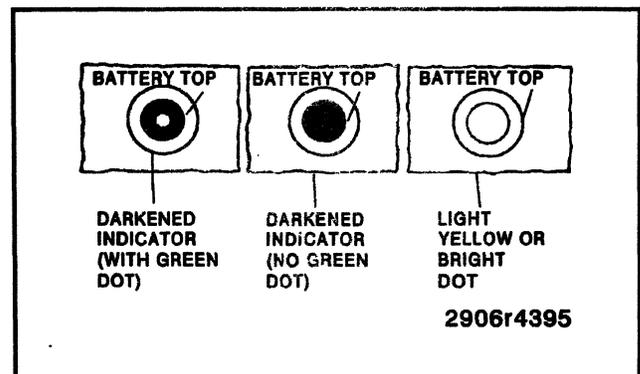

Figure 4—Built-in Hydrometer
Molded into the top of the maintenance-free battery is a built-in temperature compensated hydrometer (Figure 4). Use this hydrometer with the following diagnostic procedure.
2. HYDROMETER CHECK (Figure 4)